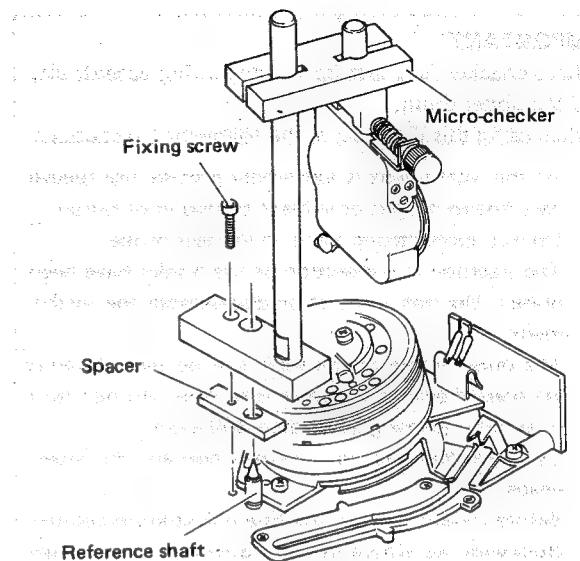

Fig. 2-12 Micro-checker mounting
- Set the micro-checker (PUJ49712-2) on the guide pin as shown in Fig. 2-12. Use the accessory hex wrench (metric) to tighten the fixing screw.